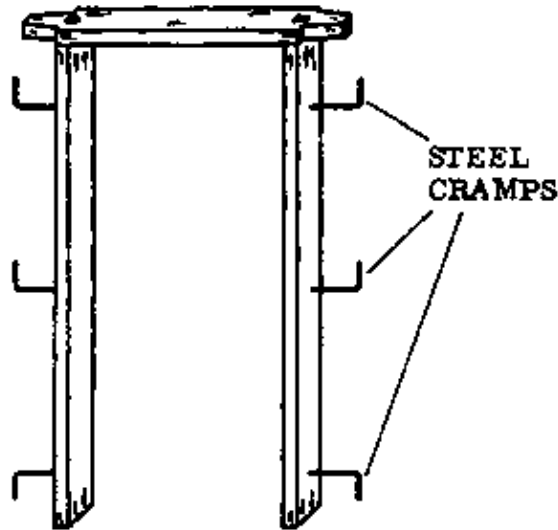

Fig. 1
– **STEEL CRAMPS:** These are pieces of mild steel rod which are fixed into the door posts (Fig. 1, next page). They are fixed about 60 cm apart; near the head, middle and foot of the frame.